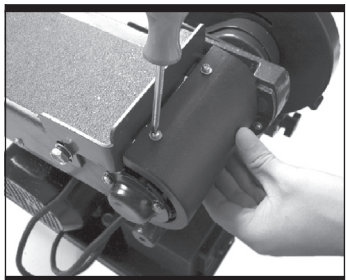

Fig 10-3
- 2) Loosen and remove the head screws and the washers as shown in Fig 10-3.
- 3) Remove the work table (4).